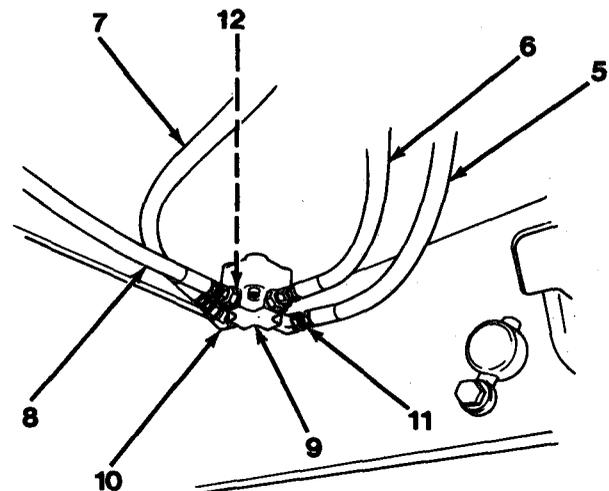
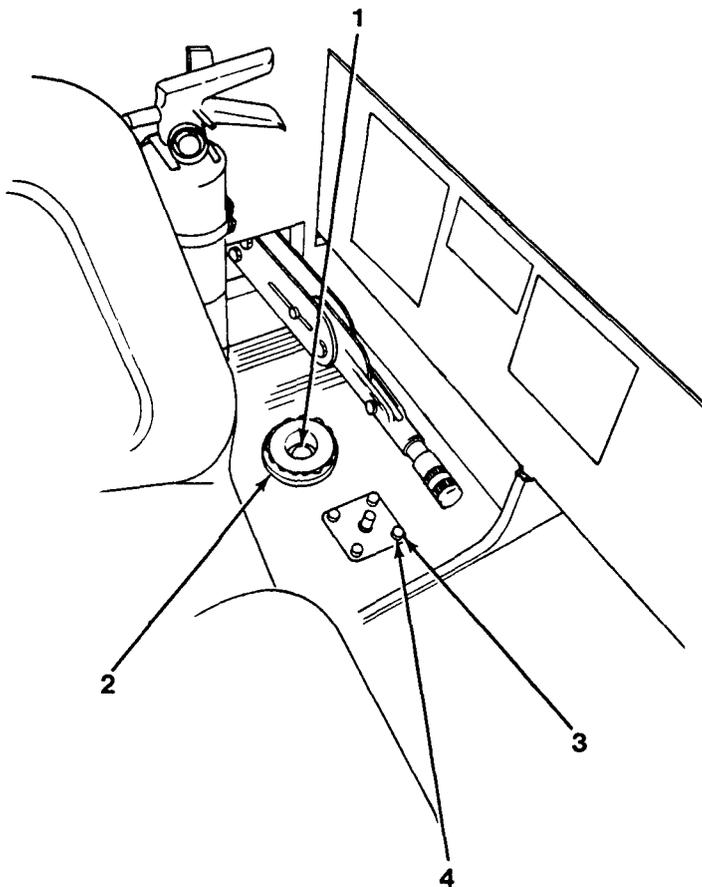

Figure 13-2
Figure 13-1
1. Install four O-rings (12), two adapters (11) and elbows (10, Figure 13-2).
2. Connect hoses (5), (6), (7) and (8) to elbows (10) and adapters (11).
3. Install valve (9) aligning matchmark on cap with matchmark on underside of vehicle.
4. From inside cab, install four lockwashers (4) and capscrews (3, Figure 13-1).
5. Install knob (2) and set screw (1, Figure 13-1).